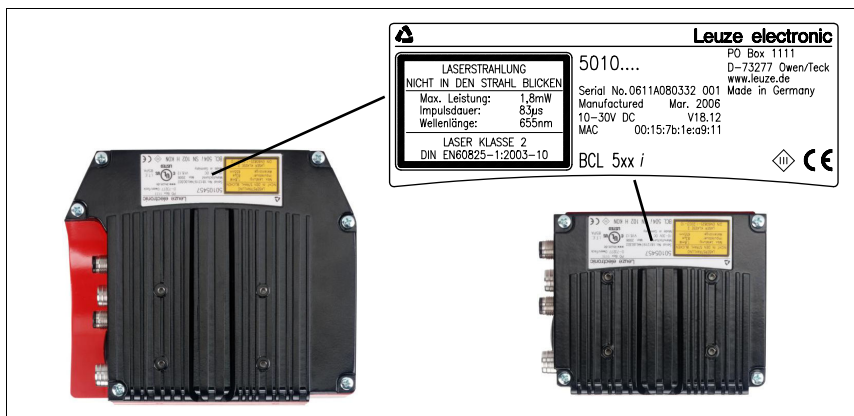

Figure 6.1: Device name plate BCL 508*i*
- The black areas in figure 6.1 are the housing base. The best read results are obtained when: